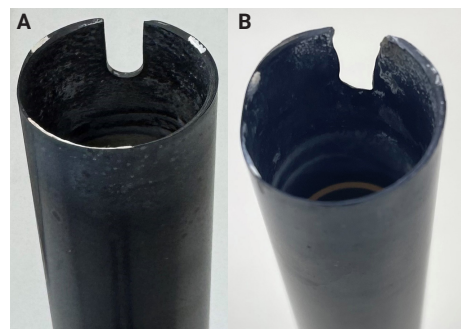

Figure 2. Ceramic outer tube after over 900 hours (A) analyzing 1.5% TDS solution of Li, Na, Cs in 5% HNO₃, and 1,792 hours (B).
Unlike quartz, the material properties of silicon nitride provide superior resistance to devitrification induced by the analysis of alkali-metals (Figure 2) as the free metal ions are unable to destabilize the Si-N bonds. Silicon nitride also offers greater tolerance to thermal shock when exposed to high-temperature plasma cycling. It is also recommended for the analysis of samples containing hydrofluoric acid (HF), which can etch and attack the quartz components. An inert alumina injector must also be used when analyzing samples containing HF, as quartz is not compatible.